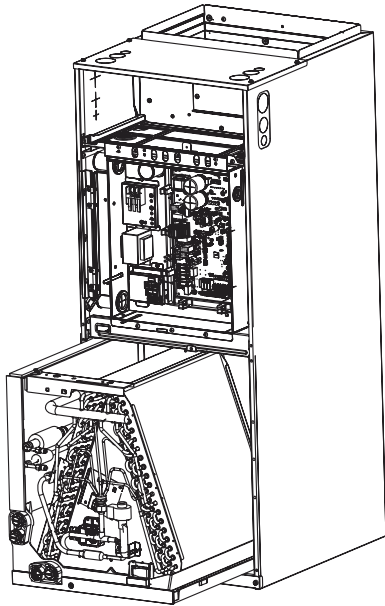

Fig. 5
- (5) Extract the evaporator with the removed wires. (Refer to Fig.5)